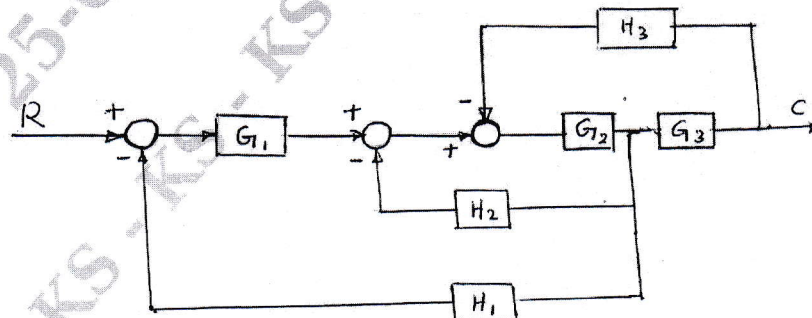

Fig. Q4 (a)
- 4 a. Obtain the control ratio C/R for the block diagram shown in Fig. Q4.(a). (08 Marks)